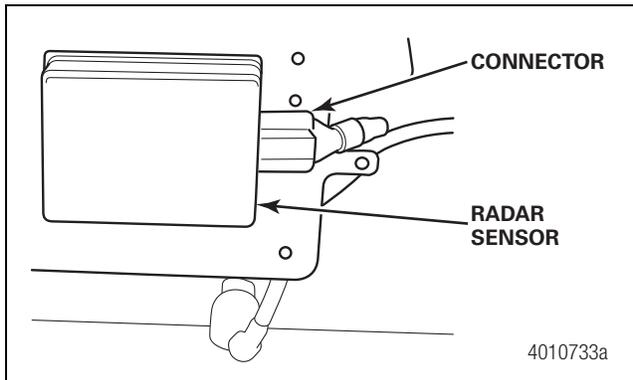

Figure 7
5. Reconnect the other end of the radar adapter harness to the new radar unit by pushing on the adapter connector until it snaps into the radar sensor. Slide the rubber boot over the connector until the connector is completely covered by the boot. If required, secure the harness using a snap clip or tie strap in the hole on the bracket. Make sure the harness is equipped with a drip loop and does not rub against any sharp edges. Figure 7.